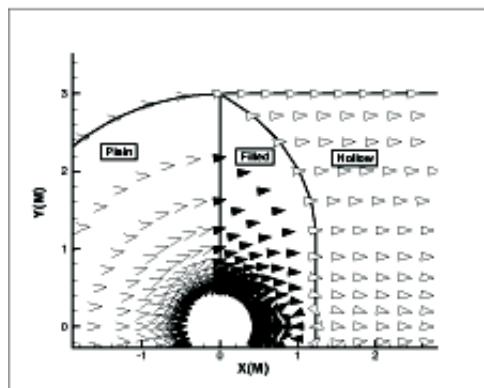

Figure 10-17. Arrowhead types for vector plots (plain, filled and hollow).
- **Head Style** - Right-click to choose an arrowhead style for the vectors. Figure 10-17 displays the available styles.